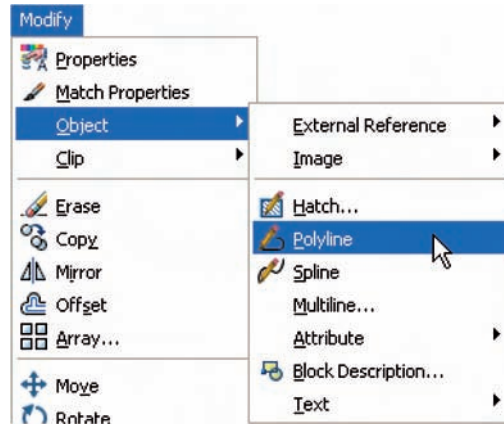

Fig. 3.29 Calling **Edit Polyline** from the **Modify** drop-down menu
2. Call the **Edit Polyline** tool – either from the **Modify** drop-down menu (Fig. 3.29), or by *entering* **pe** or **pedit** at the command line. The command line shows: